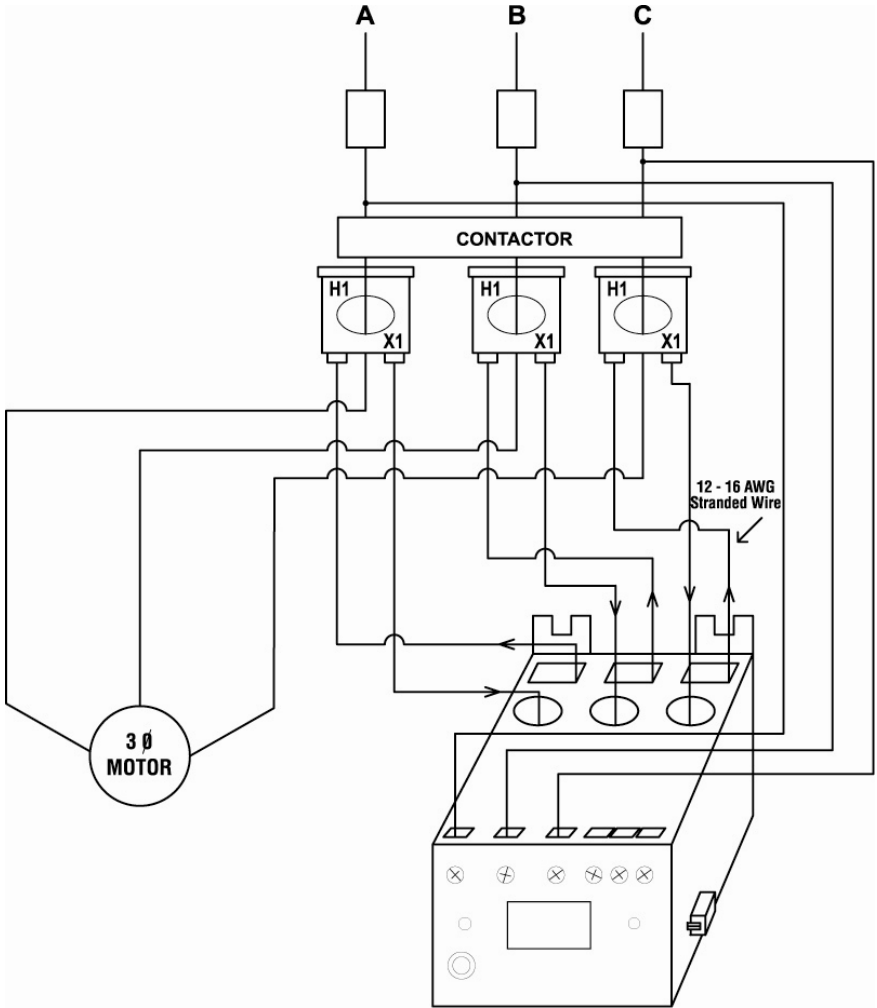

Figure 3: Typical Wiring Using External CTs²
- c) For amperages greater than 9.0 amps, external CTs (current transformers) are required. SymCom recommends using CTs with terminal connections for easier installation. All CT secondaries must make one or two passes through the round holes on the MotorSaver®Plus. See Figure 3 for a typical wiring diagram using external CTs.